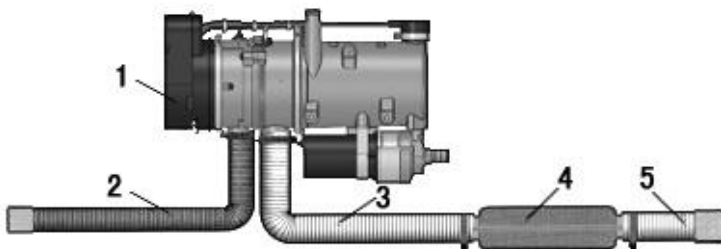

Fig. 9
4.4 Installation of Air Intake and Exhaust System (See Fig.9)